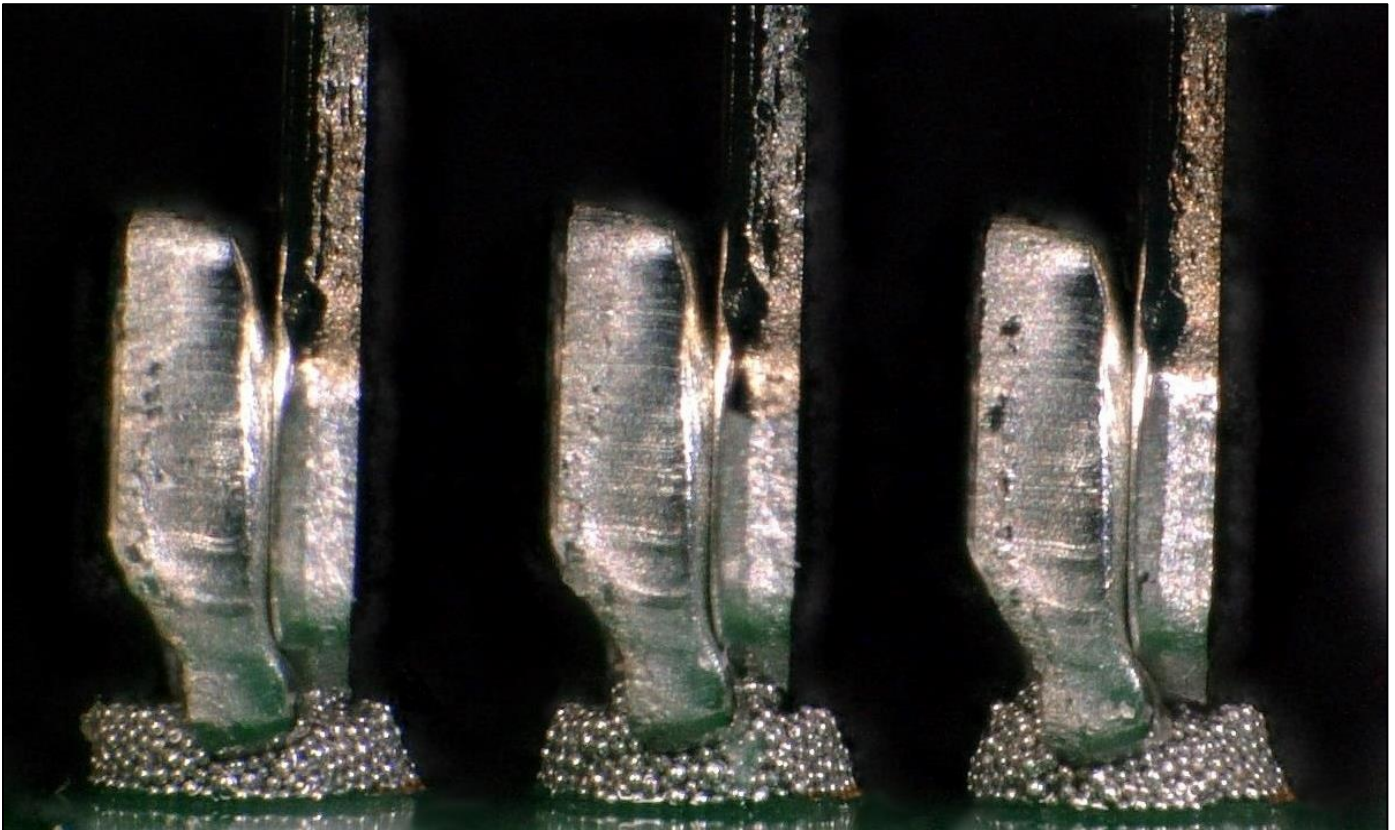
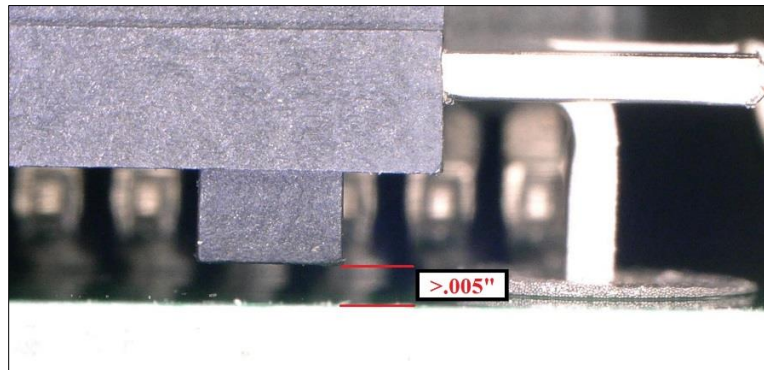

Fig. 3. Solder charge location relative to solder paste. Notice good contact between solder charge and paste.
Fig. 4. The insulator housing of a fully seated SEAF8-RA connector prior to reflow will rest approximately .005" (0.13mm) above the board surface.
- Complete solder pad coverage is critical. The solder charges are intentionally formed at an angle to ensure that they contact the solder paste (see Fig. 3). If this does not occur, proper wetting will not be achieved. Automated inspection of each print is recommended. If solder paste does not completely cover the solder pad the PCB should be rejected, cleaned and re-printed.
- The connector must be fully seated. As previously stated and shown in Fig. 3, it is critical that the solder charges contact the solder paste to ensure proper wetting. When using automated pick and place equipment, ensure the Z-axis dimension fully seats the solder charges onto the board surface. Due to nominal variances in solder charge positioning, i.e., coplanarity, not all charges will contact the board at the same time. Fig. 4 illustrates a fully seated connector prior to reflow.